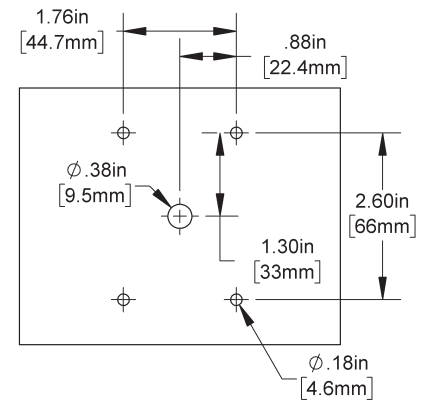

Fig. 2: BAPI-Box Crossover Enclosure Mounting Holes
2. Drill the probe hole as shown in Fig. 2. Insert the probe into the duct.